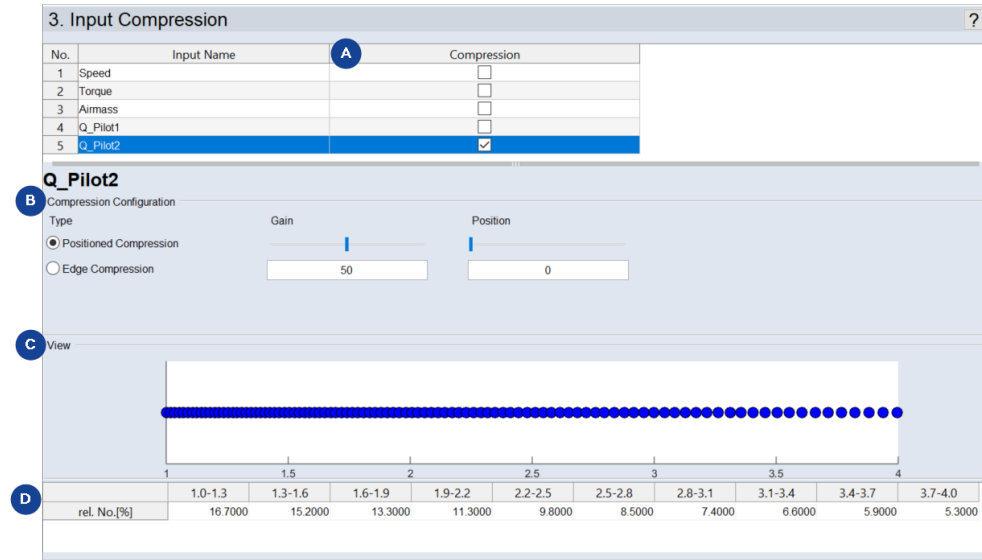

Fig. 6-4: ASCMO-DYNAMIC ExpeDes Step 3: Input compression (type "Positioned Compression")
1. In the **Compression** column, activate the checkbox for each input you want to compress (see **A** in Fig. 6-4: above).
In the **Compression Configuration** area (**B** in Fig. 6-4: above), you can define the type and the orientation of compression. There are two types of compression.
In the **View** area (**C** and **D** in Fig. 6-4: above), the position of the measurement points and, therefore, the measure of the selected compression is graphically displayed. Underneath it, the number of measurements in the respective interval resulting from the compression is specified under **rel. Size in %**.